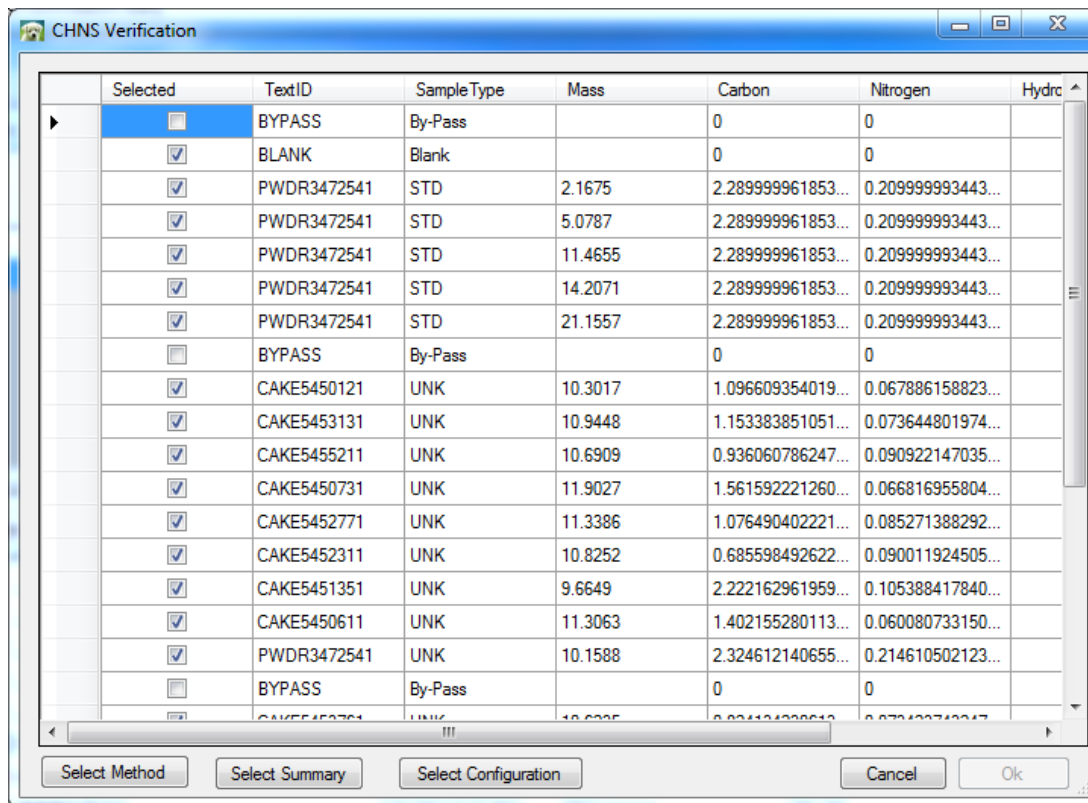

Figure 4. CHNS verification screen
4. In MUT, select **Upload** to open a window as shown above in Figure 4. Click on :